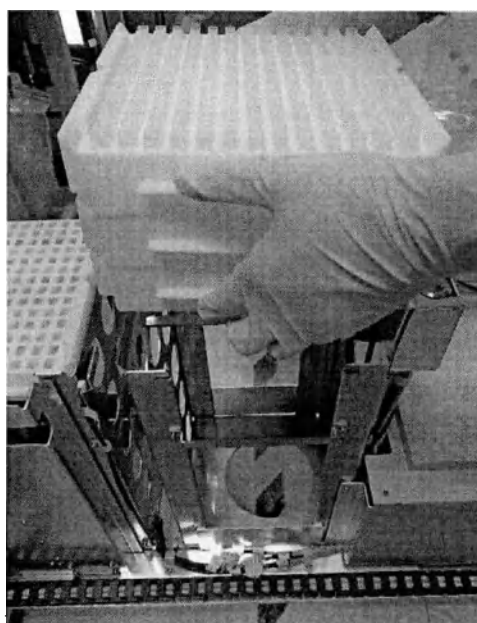

Fig. 4.2-1. Installation of a new cuvette assembly
5. Grasp one or more cuvette blocks by the handle with both hands and slowly place the blocks into the bottom compartment of the sliding compartment (see Figure 4.2-1). Press the button of the lower storage compartment and its height will be adjusted to the loading level. Wait until the bottom storage compartment button indicator light turns green before installing the following cuvette blocks.